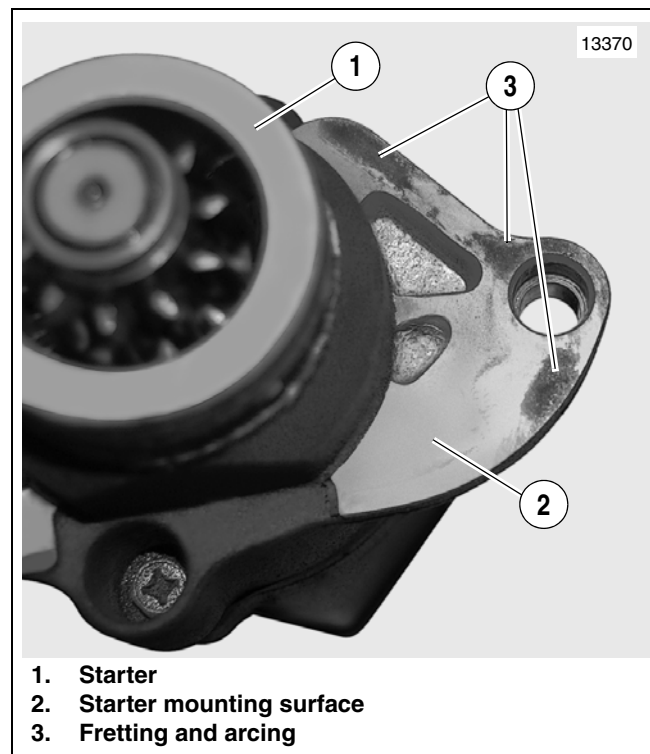

Figure 1. Fretting
2. See Figure 1. Inspect starter mounting surface (2) and matching area on inner primary for fretting and arcing (3) which is a pitting condition caused by insufficient ground.